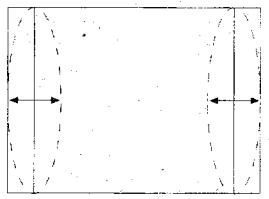

Fig. 5
- d) Adjust the PIN AMPLITUDE to obtain condition as in (fig. 5).